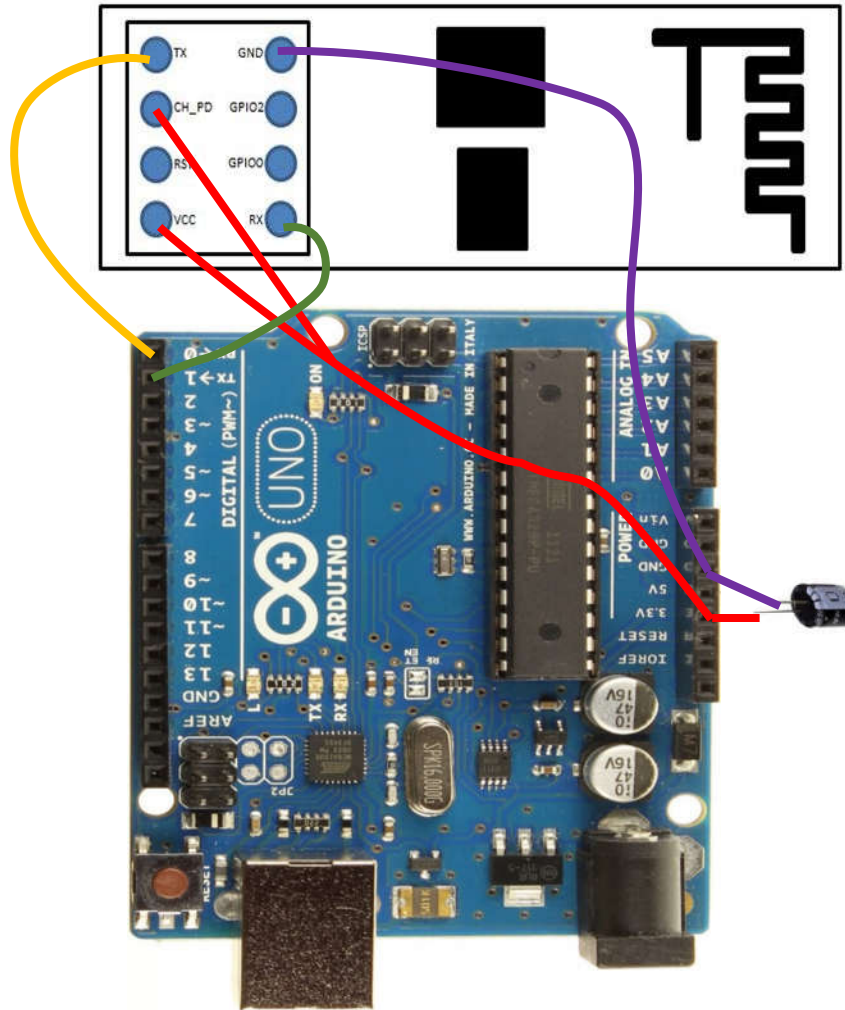

Figure 13: ESP8266-01 Connections for “Standard” (Flash Mode) Operation.
Fig. 13 shows the connections of the ESP8266-01 in order to be used as an Arduino board Wi-Fi network. Take into account that the power supply connection is the one shown in Fig. 4 above, and
The pin interconnections for the ESP8266-07 are analogous to that shown in Fig. 13, and taking into account the device power shown in Fig. 5 above, i.e. with:
The sketch in Fig. 10 uploaded to the ESP8266 module does not use/need the serial connection for Arduino board (inter)operation, though. Clearly, that sketch is not very useful and does not provide a Wi-Fi facility to a low-cost Arduino board at all. In cases the Arduino board needs to send and/or receive some data via Wi-Fi it will need and use the serial communication with the ESP8266 module via Rx-Tx pins connected as shown in Fig. 13.
- 2) Connect the ESP8266 module as shown in Fig. 13.